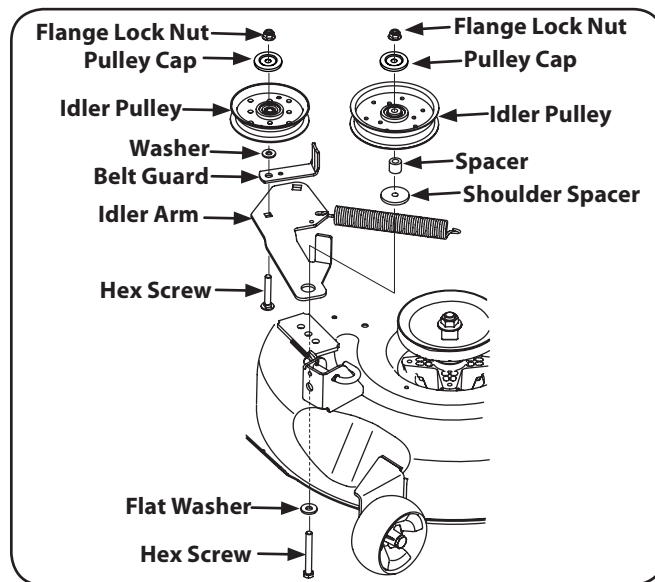

Figure 7-10
- Remove the two idler pulleys by removing the hex screws and flange lock nuts that secure them to the deck and the idler arm. See Figure 7-10. Do not lose any of the hardware when removing the hex screw and flange lock nut.
- Place the belt around the idler pulleys removed in step 3 with the "V" side facing in. Once in place, reinstall all the hardware and tighten the flange lock nut to secure the assembly. See Figure 7-10.
- Route the belt as shown in Figure 7-10 and then reinstall the deck.